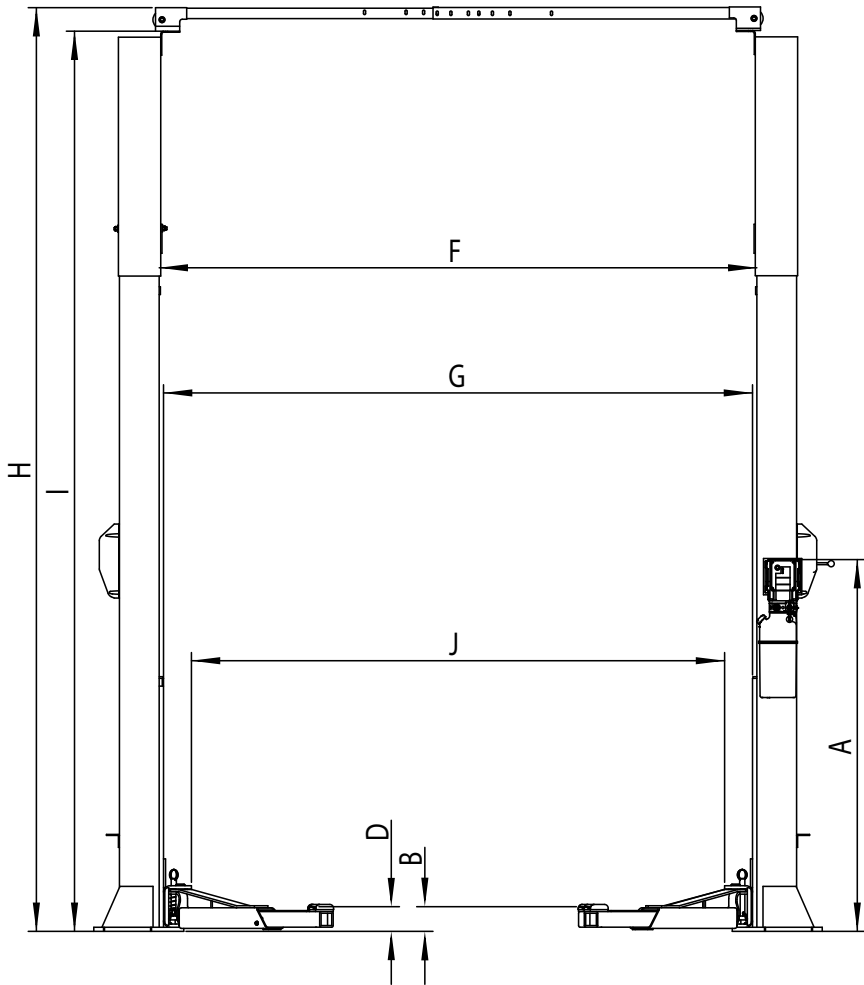
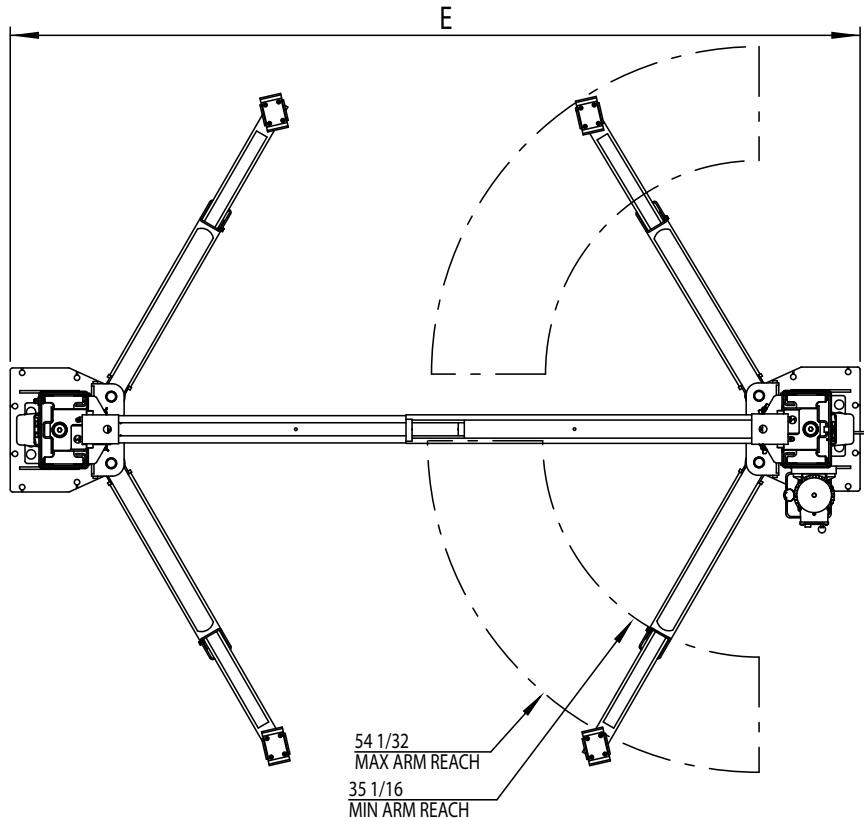
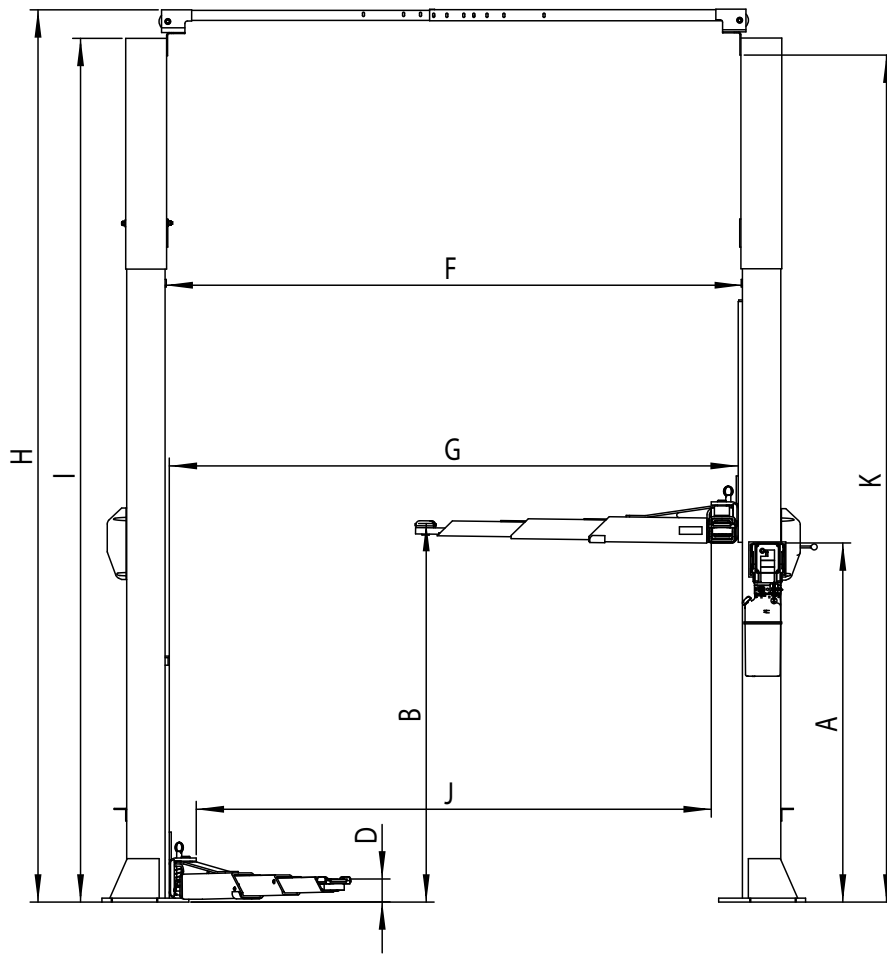

Fig. 1a
Fig. 1b
Fig. 1c
1. Lift Location: Use architects plan when available to locate lift. Fig. 1a, Fig. 1b, Fig. 1c & Fig. 1d shows dimensions of a typical bay layout.
4. Lift Setting: Position columns in bay using dimensions shown in Fig. 1a, Fig. 1b, Fig. 1c & Fig. 1d. Place column with power unit mounting bracket on vehicle passenger side of lift. Both column base plate backs must be square on center line of lift. Notches are cut into each base plate to indicate center line of lift. Use appropriate equipment to raise carriage to first latch position. Be sure locking latch is securely engaged.